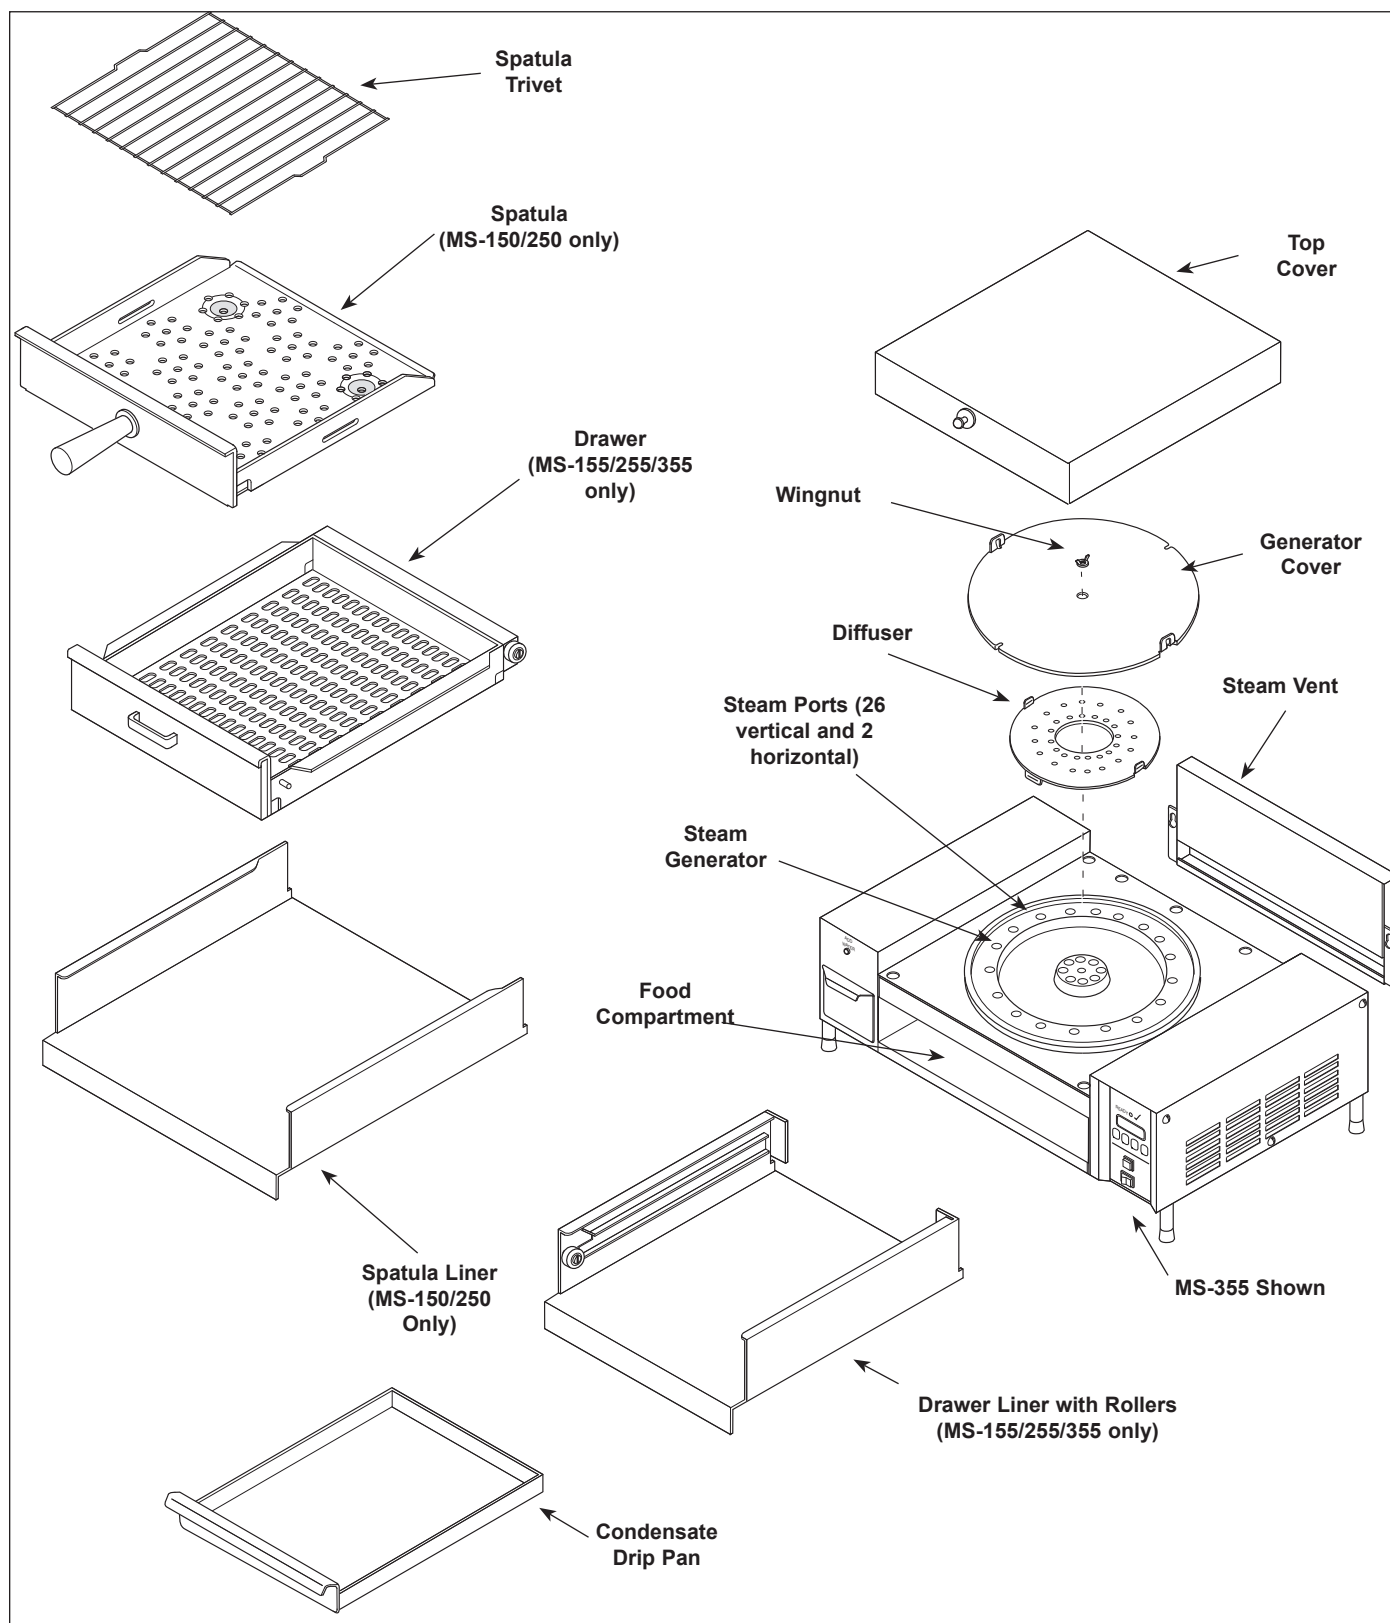

Figure 8. Miracle Steamer Components
3. Remove the Spatula (MS-150/250 only), Drawer (MS-155/255/355 only), Liner, Drip Pan, Top Cover, and Steam Vent (Figure 8).
5. Wipe down the food compartment and the entire exterior of the unit (Figure 8) with a clean, hot, damp cloth (not dripping wet) and wipe dry.
3. Remove the wing nut, Generator Cover, and Diffuser (Figure 8). Wash these items in hot, soapy water, rinse and **WIPE DRY**.
4. With the unit cool, use a wire brush and/or scraper to loosen and remove the excessive calcium/mineral deposits from the generator surface (Figure 8). Next, take a wire brush and clean out any build up that has accumulated in the 28 steam ports (26 vertical and 2 horizontal) of the generator (Figure 8). Remove the loose build up, wipe the generator with a clean, damp cloth, and reassemble the unit.